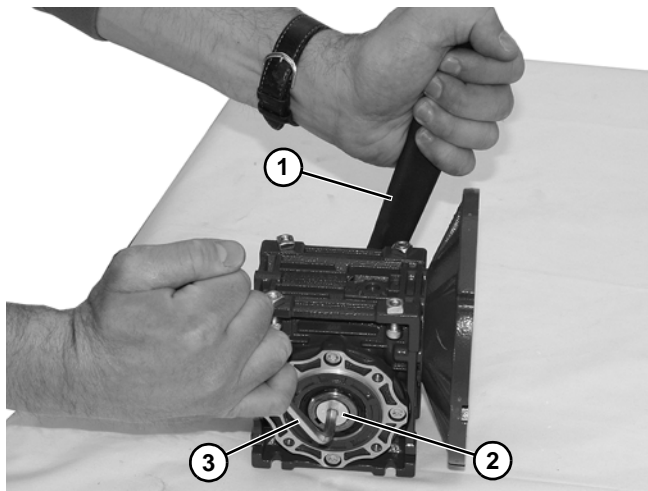

Figure 19
6. Hold the driveshaft with a wrench (Figure 19, item 1) as shown to keep shaft from turning, while removing screw (Figure 19, item 2) with hex wrench (Figure 19, item 3).
11. Hold the driveshaft with a wrench (Figure 19, item 1) as shown to keep shaft from turning, while installing screw with hex wrench (Figure 19, item 3). Tighten screw to 100 in-lb (11.5 Nm) for 42CZ or 350 in-lb (39.5 Nm) for 56C, 63B5 and 71B5.